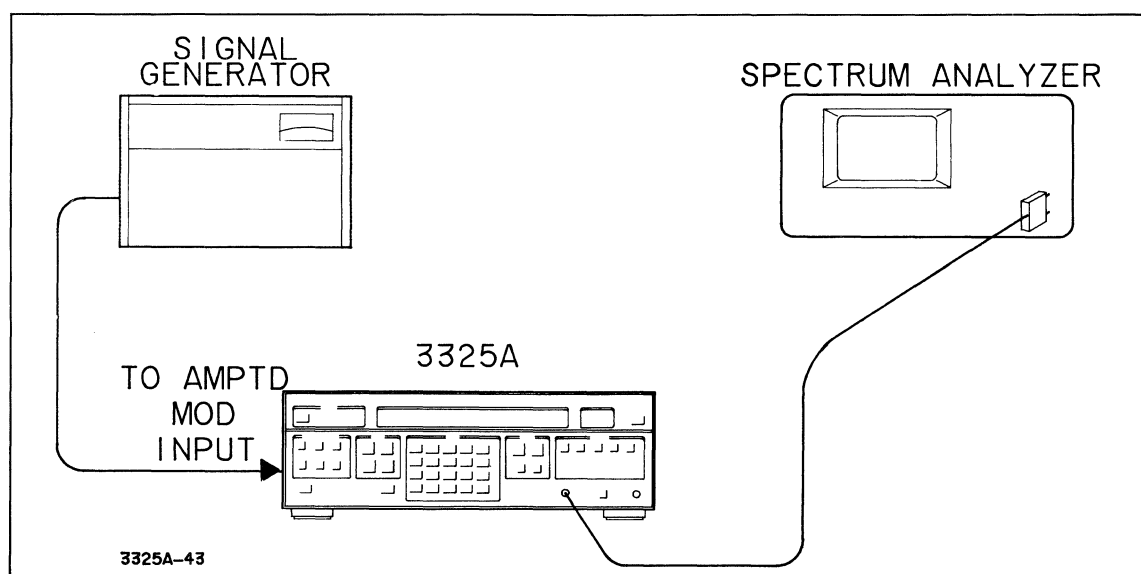

Figure 4-5. AM Envelope Distortion
- a. Connect the equipment as shown in Figure 4-5.